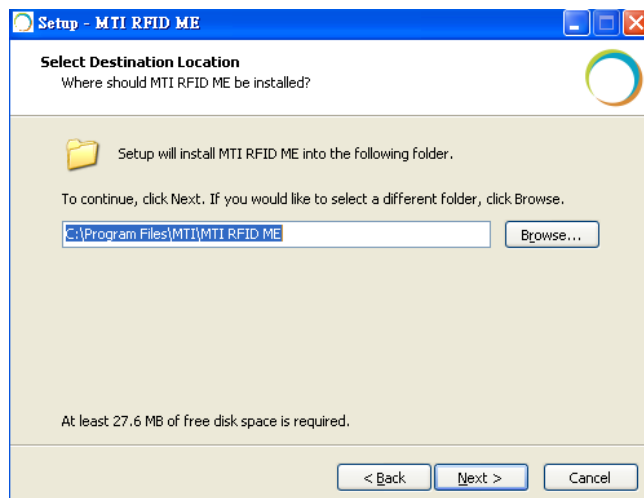

Figure 3
2.1.3. Select a Destination Folder. To select a different folder, click “Browse” and choose one of the available options as shown in Figure 3.